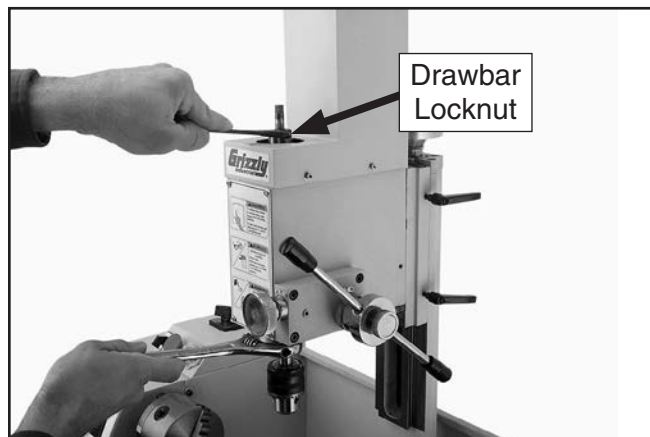

Figure 113. Tightening drawbar lock nut.
6. Tighten drawbar lock nut, as shown in **Figure 113**.
3. Loosen drawbar lock nut (see **Figure 113**) on previous page.